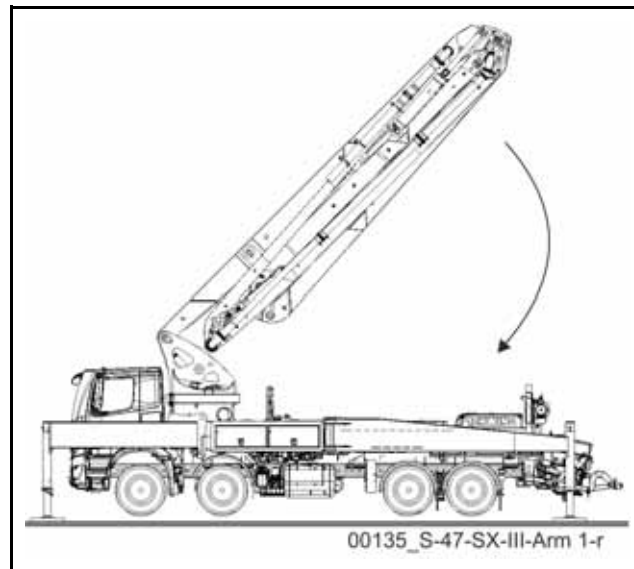

Fig. 277
- Carefully place the boom package into the boom support without any pressure (**Fig. 277**)